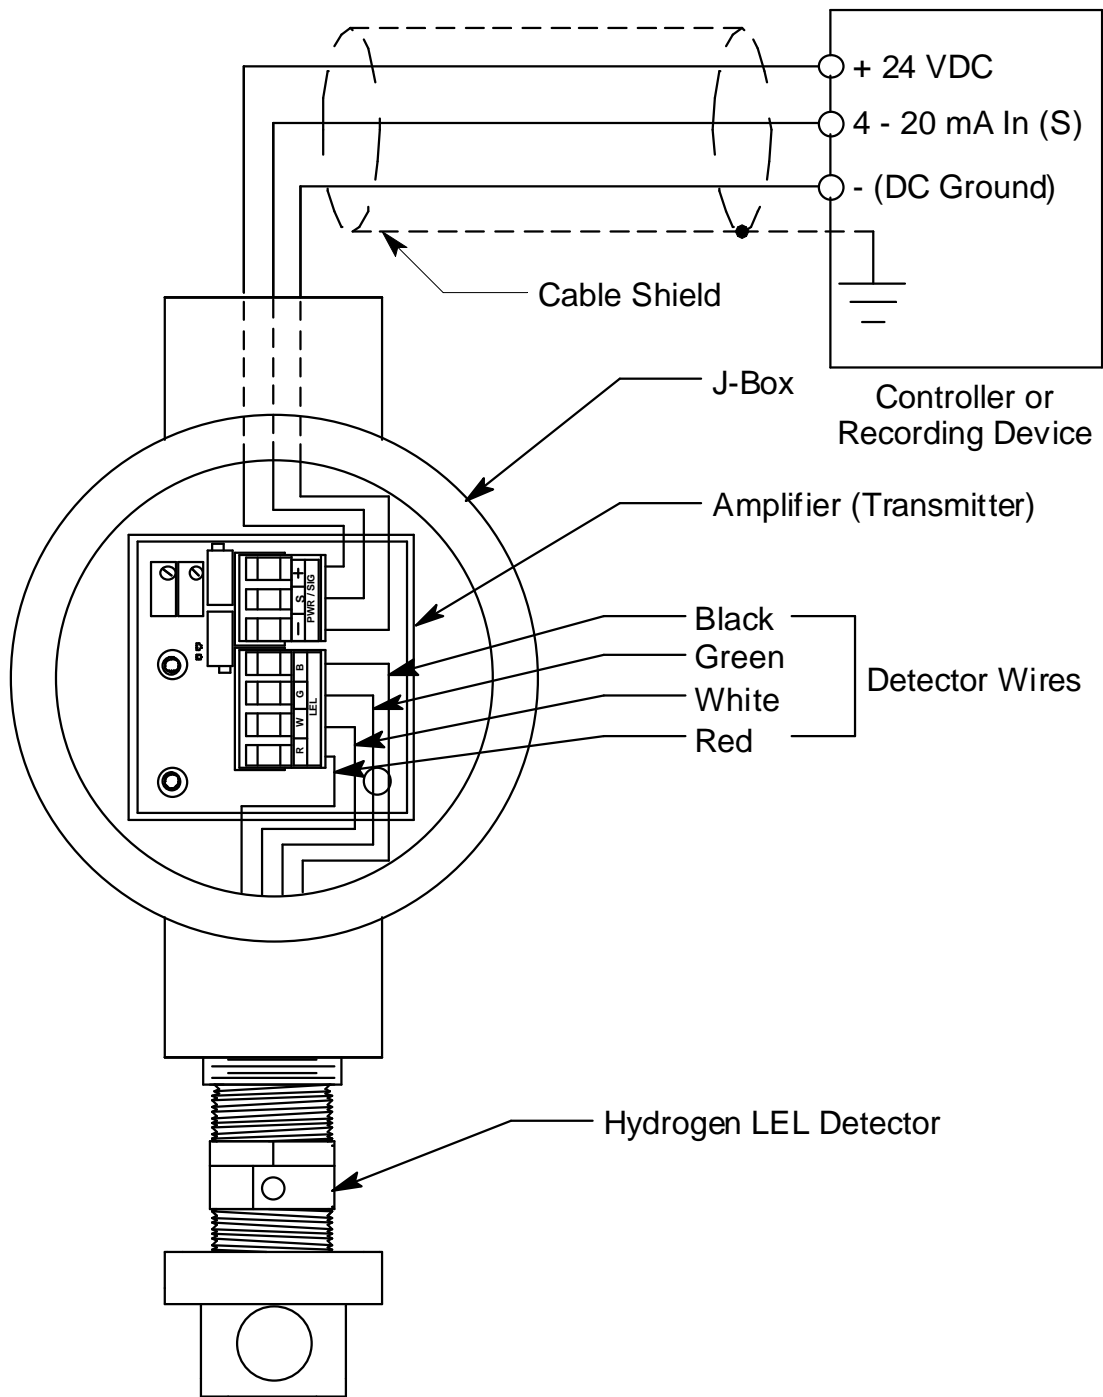

Figure 3: Wiring the Hydrogen Transmitter to a Controller
4. The detector leads are factory wired. Verify that the detector leads are wired to the amplifier's detector terminal strip as shown in Figure 3.
7. Pull out the controller terminal strip, and connect the three wires to the terminal strip as follows (see Figure 3).
11. Connect the wires to the applicable detector/transmitter terminal strip at the controller as shown in Figure 3.
8. Connect the detector leads to the detector terminal strip as shown in Table 3 below and Figure 3 on page 6 of this manual.